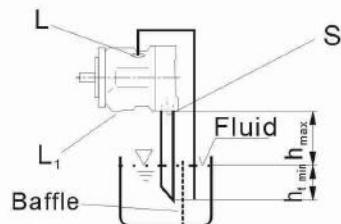

Fig.4
- b) If the minimum fluid level is equal to or below the top of the pump, pipe ports "L" and possibly "S" as Fig.4.; close port "L₁".
- The conditions according to item 1.2.1.
- a) When mounting above the reservoir, see fig.4. Conditions according to 1.2.1.